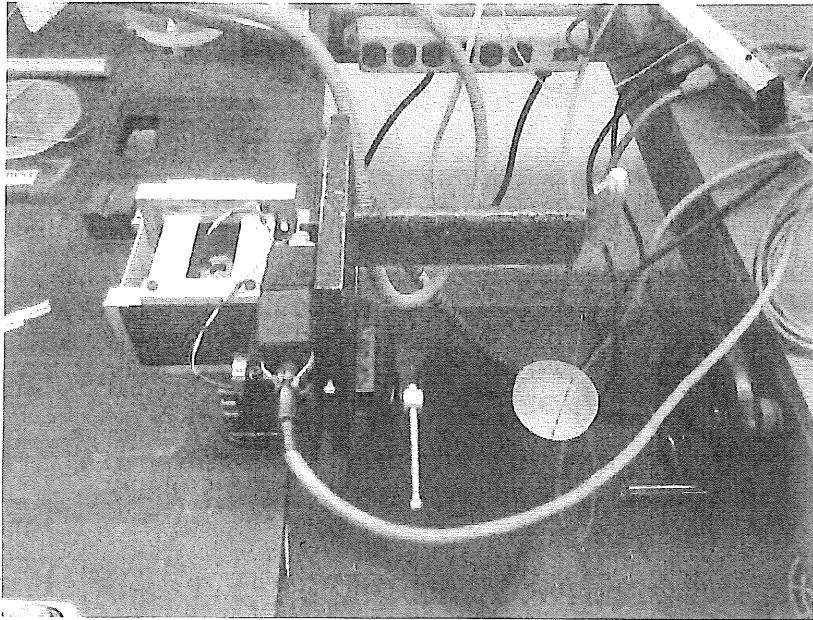

Figure 2: Dynamometer in vertical position with weight pan attached to the sting.
1. Remove the dynamometer assembly from the test section and fasten the base plate firmly to the testing bench in a vertical position, as shown in Figure 2, using the orthogonal (blue) clamping vise. Insure that the dynamometer plate is *vertical and level along the top surface.*